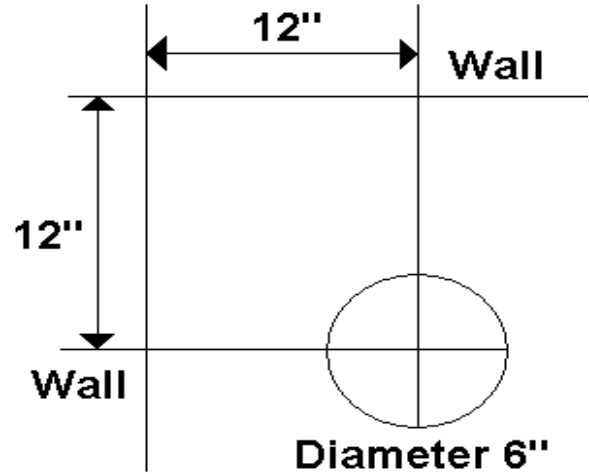

Figure 5
9. Drill the drain hole in your bathroom floor. It is important to make a hole of at least 6" diameter to allow adjustment when performing final installation. The drain hole is located 12" from each wall (see Figure 5). Depending on the shower model, this measurement can vary slightly. Verify on the shower that these dimensions are accurate.